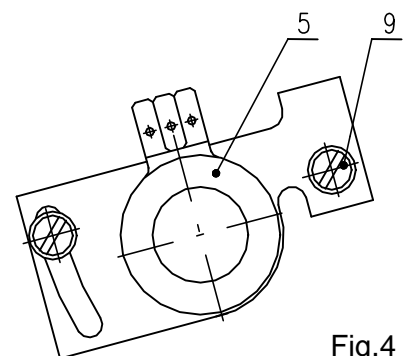

Fig.4
4.3 Adjustment of resistant transmitter (Fig. 4)